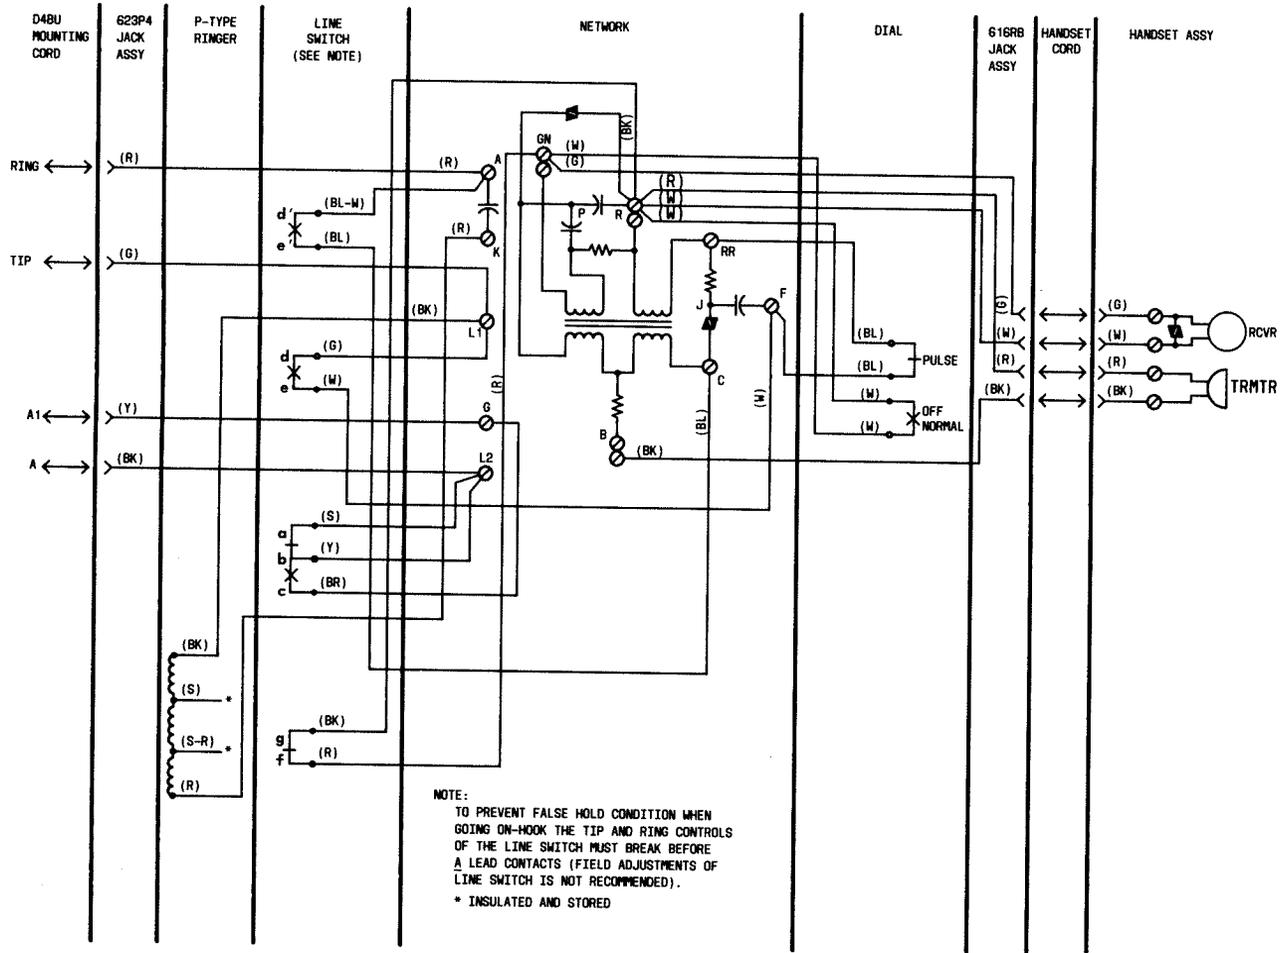

Fig. 5—951A1-03 Telephone Set Connections for 1A1 or 1A2 KTS
3.07 Connections for 1A1 and 1A2 KTS require moving the brown (BR) line switch lead from L2 on the network to the G terminal as shown in Fig. 5.